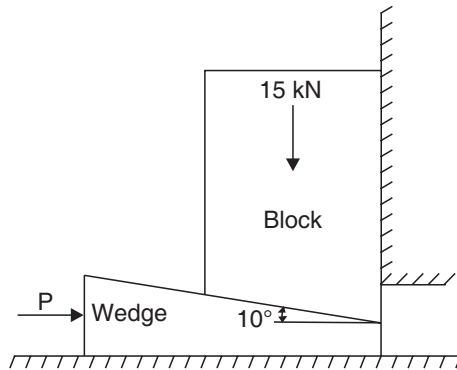

Fig. 6.26
**Sol.** Fig. 6.26 shows the block, wedge and unknown force P.